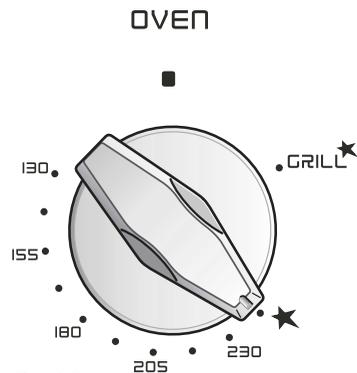

Fig. 18
2) Lightly press and turn the thermostat knob anti-clockwise to max position "★" (fig. 18).